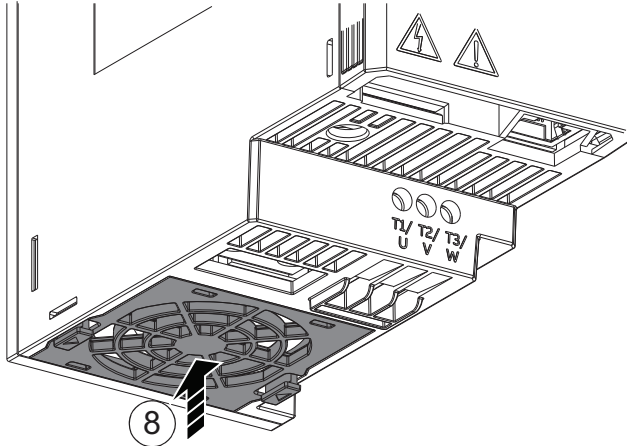

Fig. 70 — Place Fan Cover Back into Drive
8. Carefully put the fan cover into position in the drive. Make sure that the fan power cable is routed correctly. Push the cover to lock into position. (See Fig. 70.)